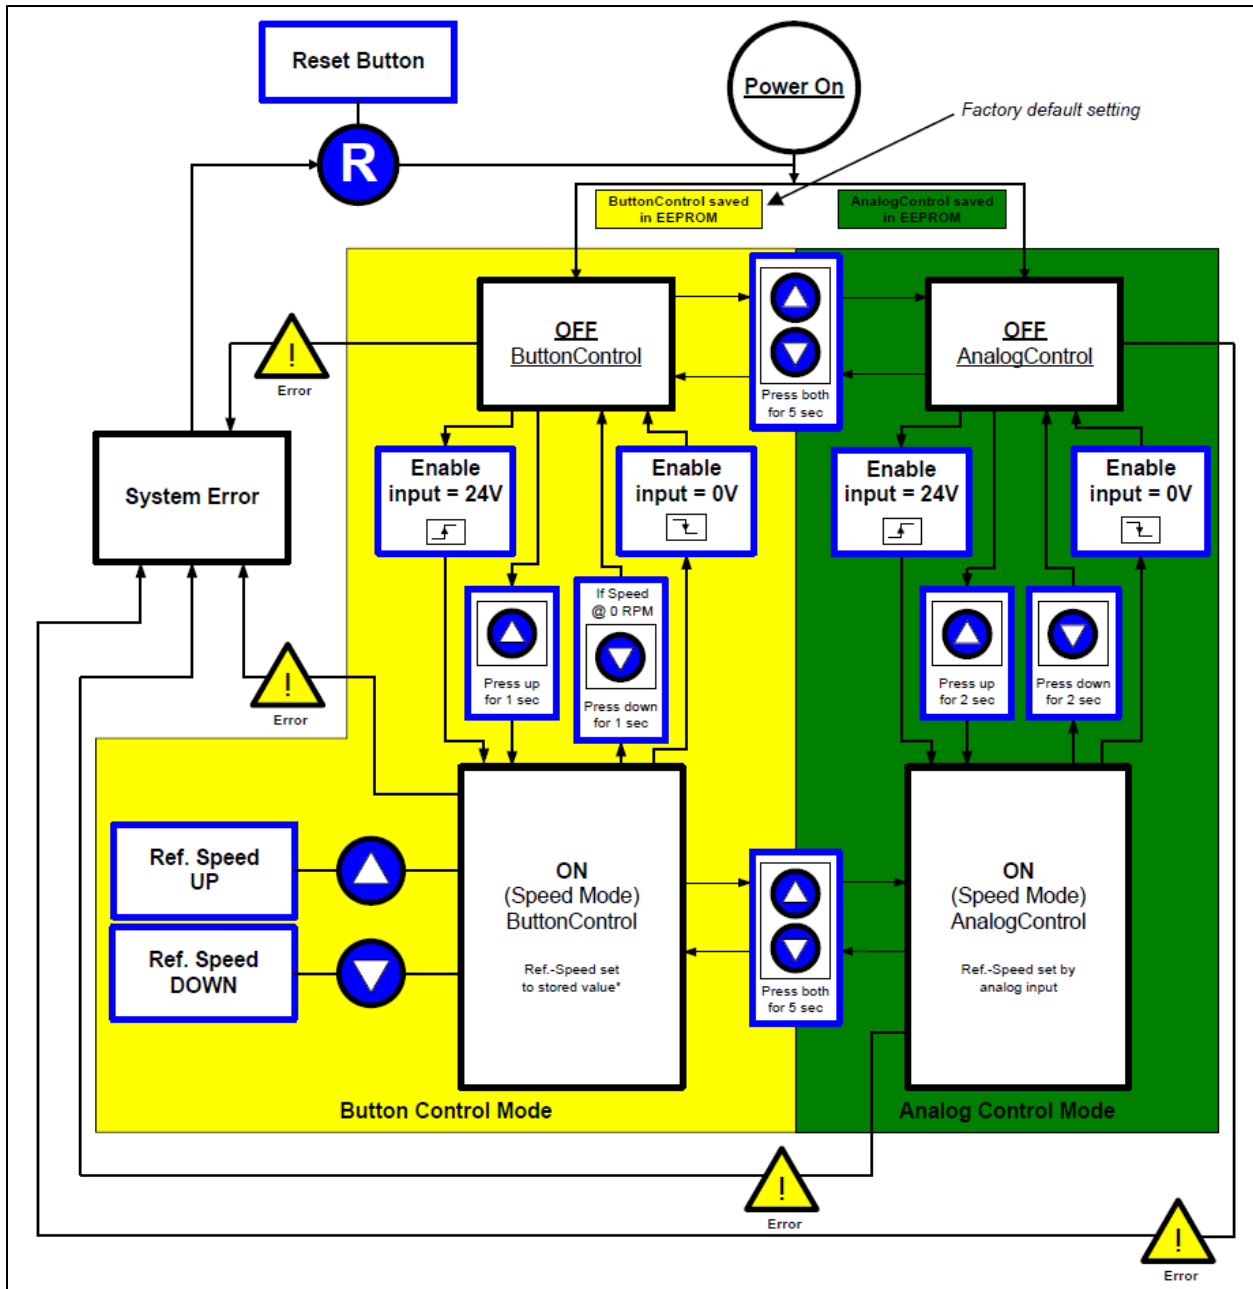

Figure 23 - State Diagram for Standalone Controller Operation
The standalone controller allows operation with manual speed setting (Button Control Mode) as well as extended operation with analog speed setting (Analog Control Mode). Figure 23 shows the state diagram, which can be controlled with the manual buttons and the signals on the “USER INTERFACE” connector. The operation mode can be chosen by pressing the “UP” and “DOWN” buttons simultaneously for five seconds. For the standard firmware, D6.25, the default setting from the factory is “Button Control Mode”.
- When applying power the system defaults into the “*Button Control Mode*” and goes into the status “*OFF Button Control*” according to Figure 23. Levitation is disabled and the display indicates “*OF*”.